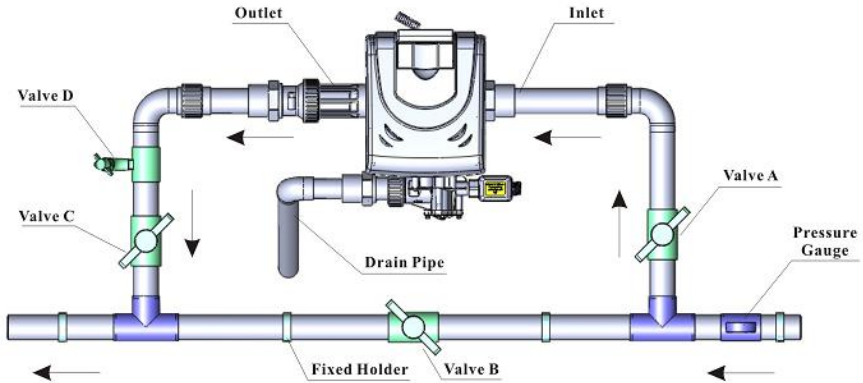

Figure 1-3
③ Pipeline connection
- a. As Figure1-3 shows, install a pressure gauge in water inlet.